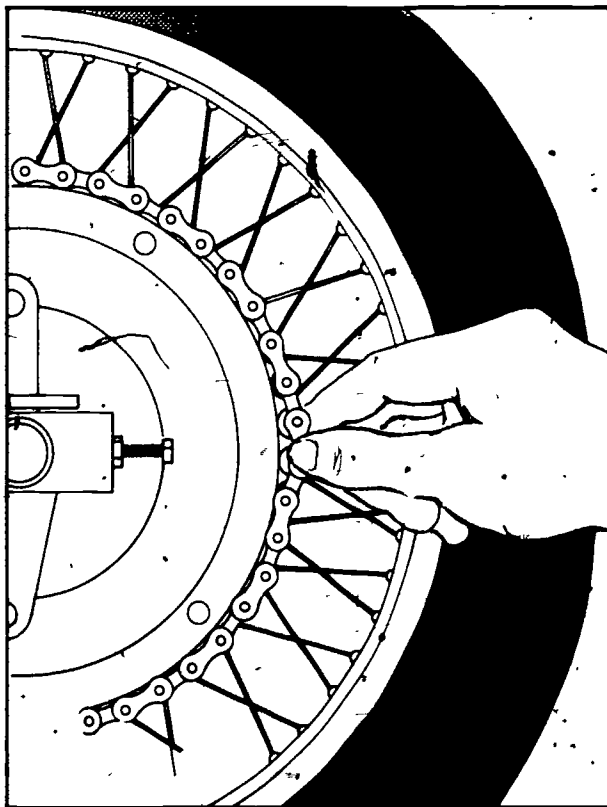

FIGURE 1
- A. Pull on the chain at the rear sprocket (Figure 1)